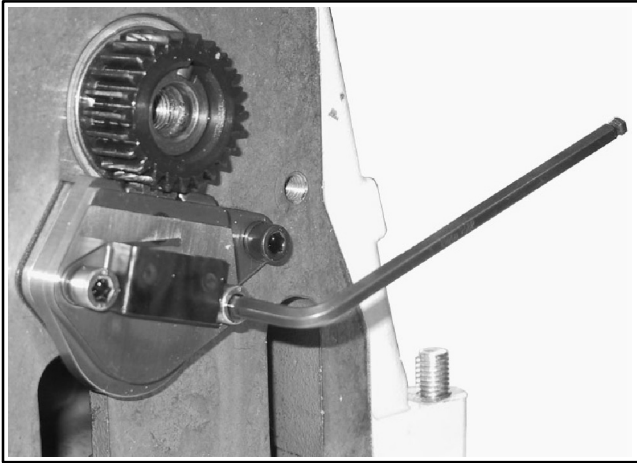

Figure 10-51 Oil Pump
1. Loosen the three hex cap screws to remove the oil pump from the crankcase. See Figure 10-51.